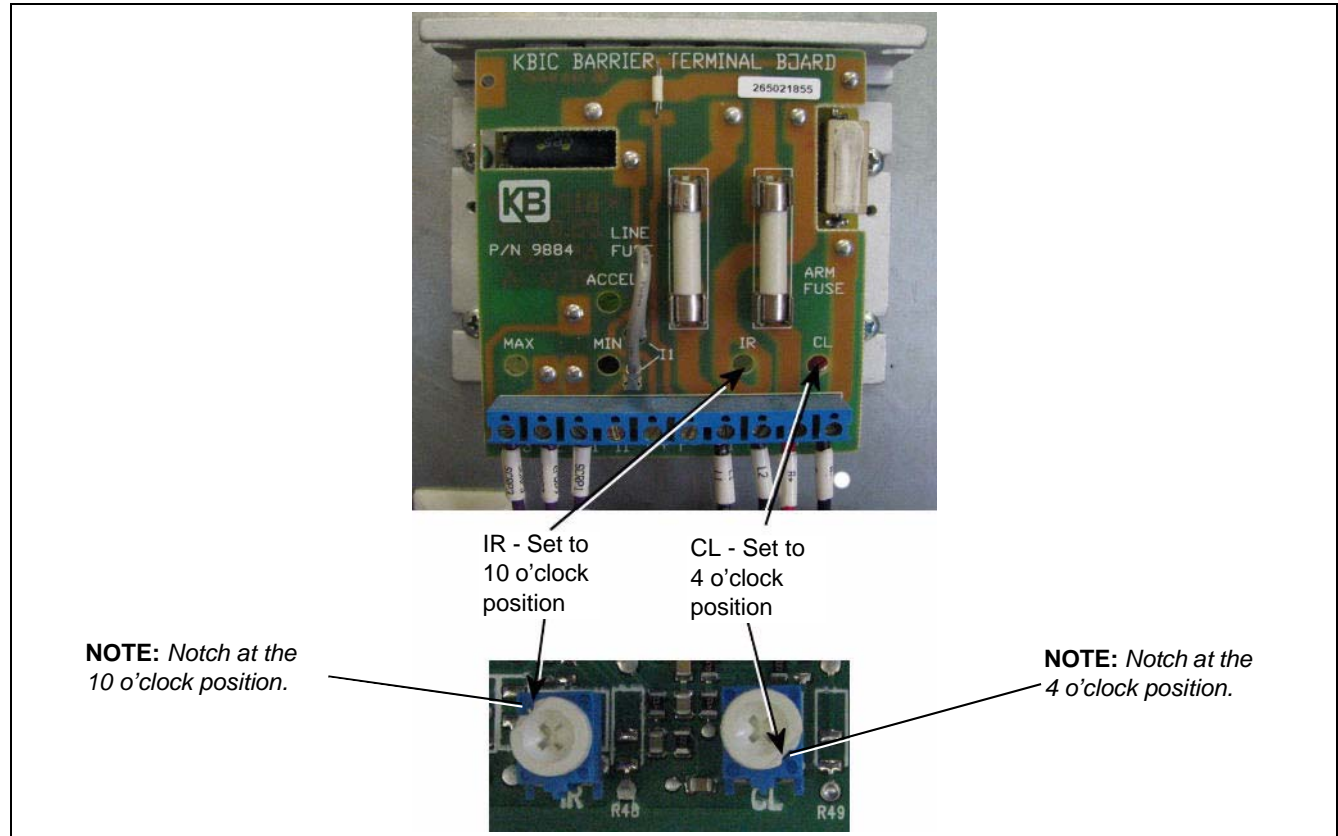

Figure 1B SCR Board IR and CL Adjustment Locations
- The indentation on the adjustment knob should be set at the 10 o'clock position. (See Figure 1B.)
- The indentation on the adjustment knob should be set at the 4 o'clock position. (See Figure 1B.)
IMPORTANT: All of the speed controls on the SCR Drive are now set in the Vision software using the touch screen on the dryer control panel. Do not try to setup the SCR drive using the minimum and maximum potentiometers on the SCR Board. Make sure the CL potentiometer is set at the 4 o'clock position and the IR potentiometer is set to the 10 o'clock position. (See Figure 1B on Page 6.)